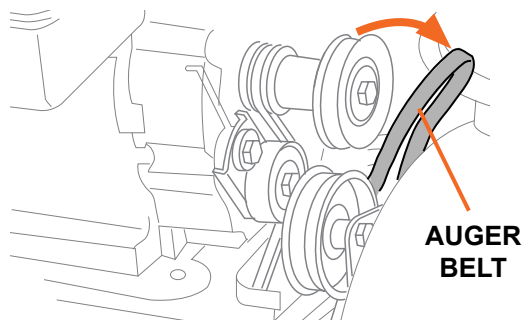

Figure 20
3. Roll the auger belt off the engine pulley (see Figure 20).